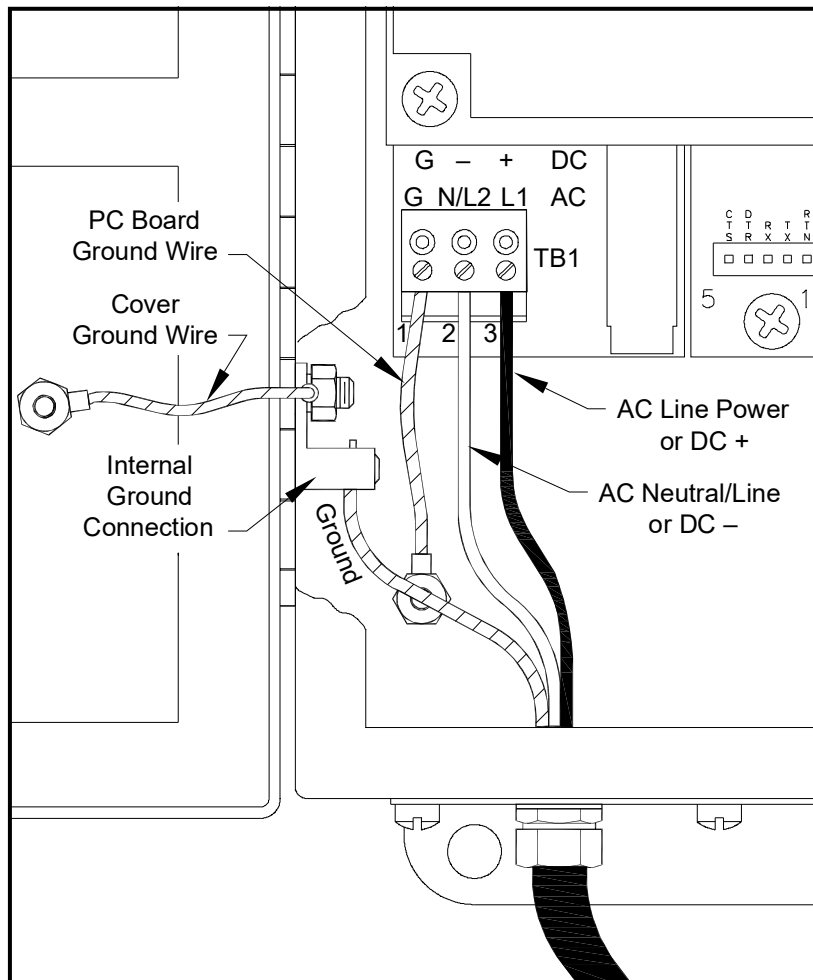

Figure 35: Wiring the Line Power
Refer to *Figure 35* or *Figure 42* to locate terminal block **TB1** and connect the line power as follows:
3. Connect the ground lead to the internal ground connection located on the side panel of the enclosure (see *Figure 35* below).
4. Connect the neutral or line lead (or the negative – DC power lead) to TB1-2 and the line power lead (or the positive + DC power lead) to TB1-3 as shown in *Figure 35* below.